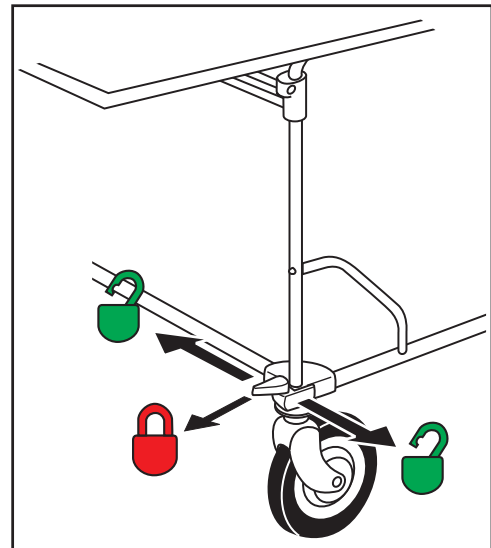

Figure 5 - Using the Swivel Lock
- To lock a caster, turn the swivel lock toward the end of the table (Figure 5).
- To unlock the caster, turn the swivel lock toward either of the long sides of the table (Figure 5).